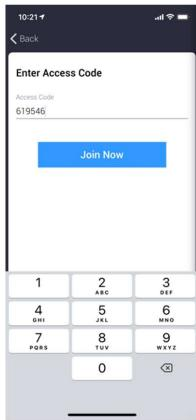

Figure 43: Access Code and User Details
3. Enter the six-digit **Access Code** from the email and select **Join Now** (Figure 43).